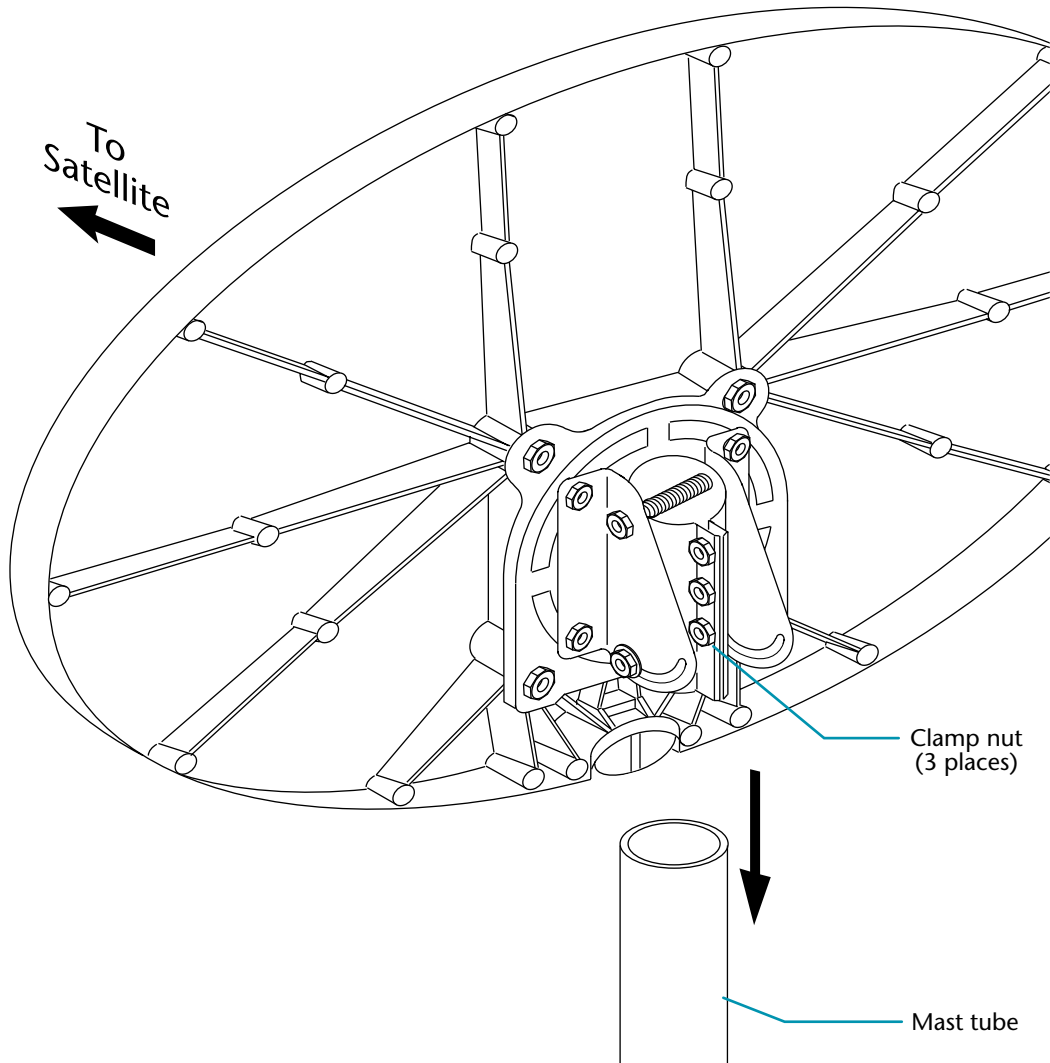

Figure 4-49. Installing antenna/cap mount assembly onto mast
1. Lift antenna/cap mount assembly and slide AZ/EL cap mount onto mast tube (see figure 4-49). Face of antenna should be parallel to front of base.